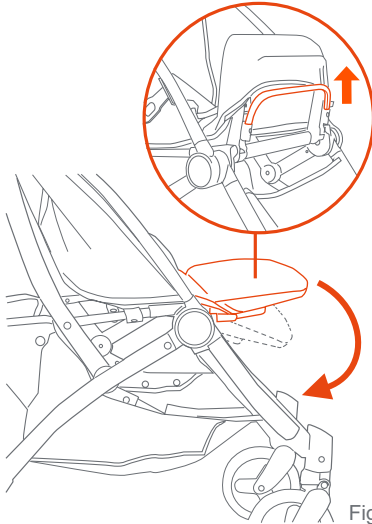

Fig. 7
- To lower the leg support, use the release bar located under the leg support and gently lower it into position (Fig. 7).